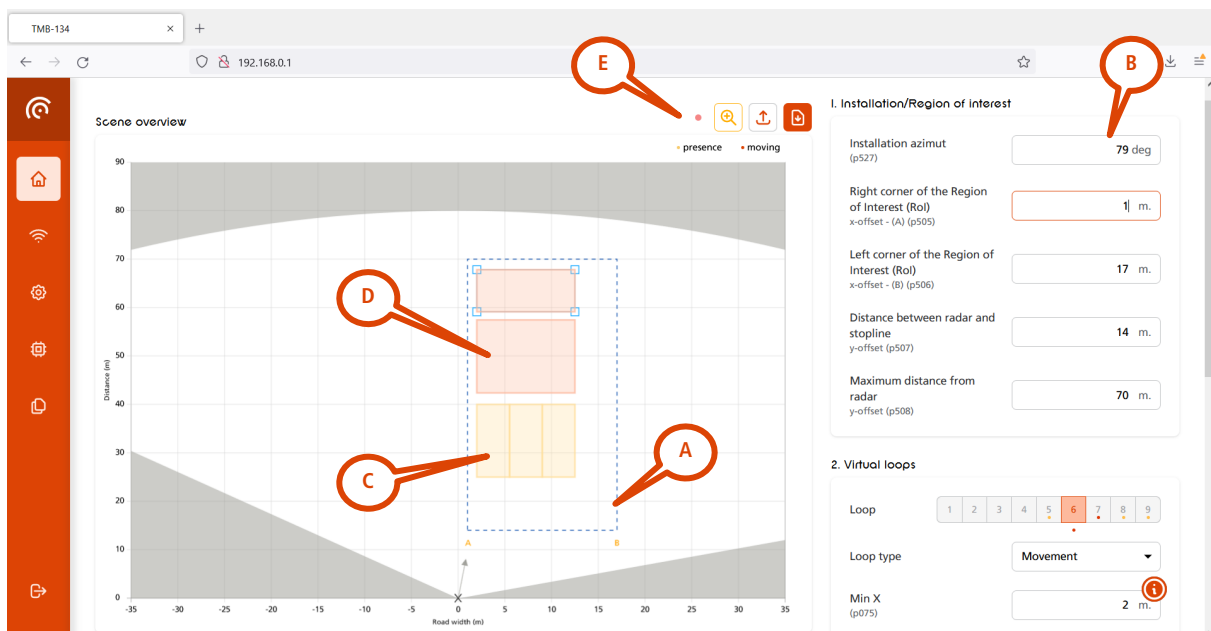

Figure 14: defining the region of interest
The Home button  shows the detection configuration page as shown in Figure 14.
The first step is to define the "Region Of Interest (ROI)" (A) depicted in blue dotted lines on Figure 14 and to size this area as close as possible to the lanes to be monitored. The purpose of this step is to avoid unwanted detections, from counterflow traffic, reflections, pedestrians on the footpath, etc.